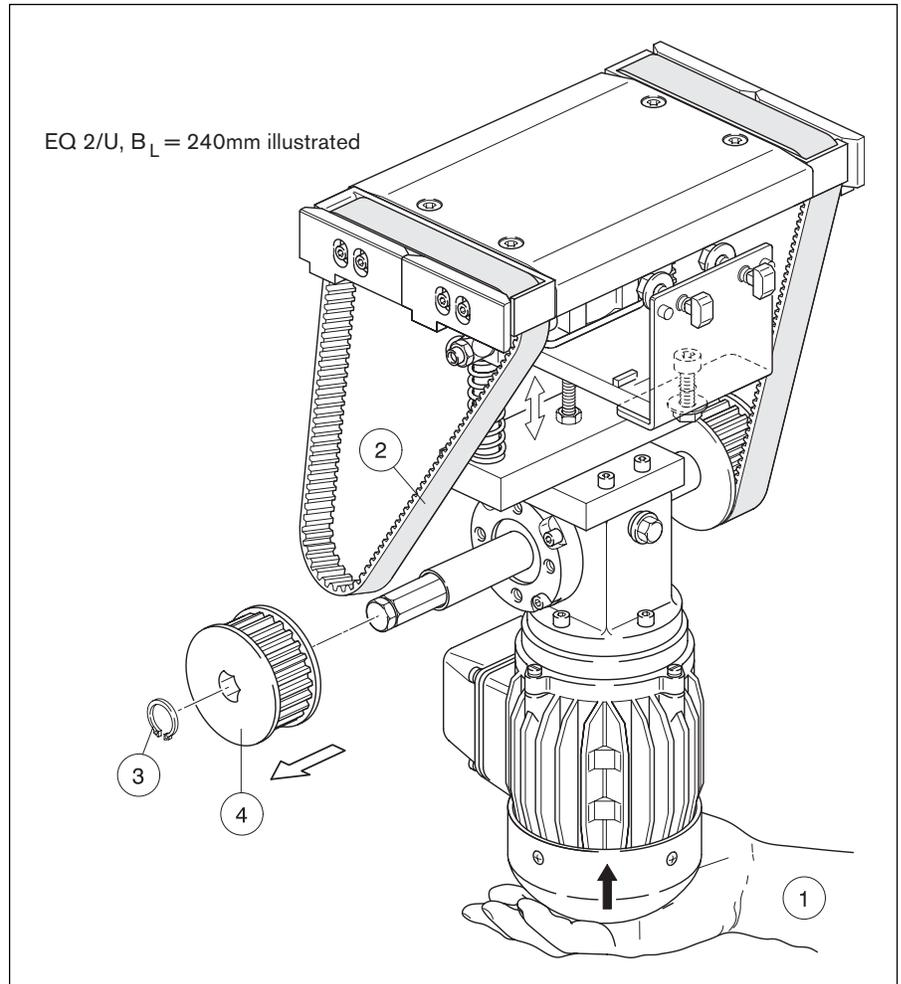

Figure 16
## Replacing the Toothed Belt Drive Pulley (Fig. 16)
- 1 Lift up on the gearmotor as shown in Fig. 16. In the following steps do not let the gearmotor drop or the module may be damaged.